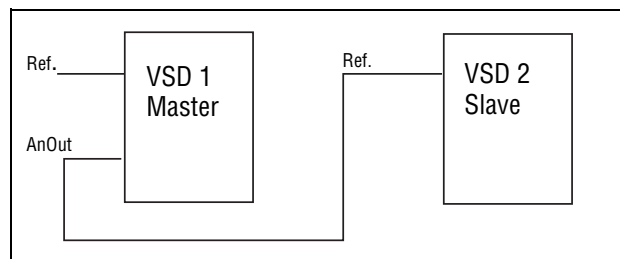

Fig. 85
- a reference signal for the next VSD in a Master/Slave configuration (see Fig. 85).